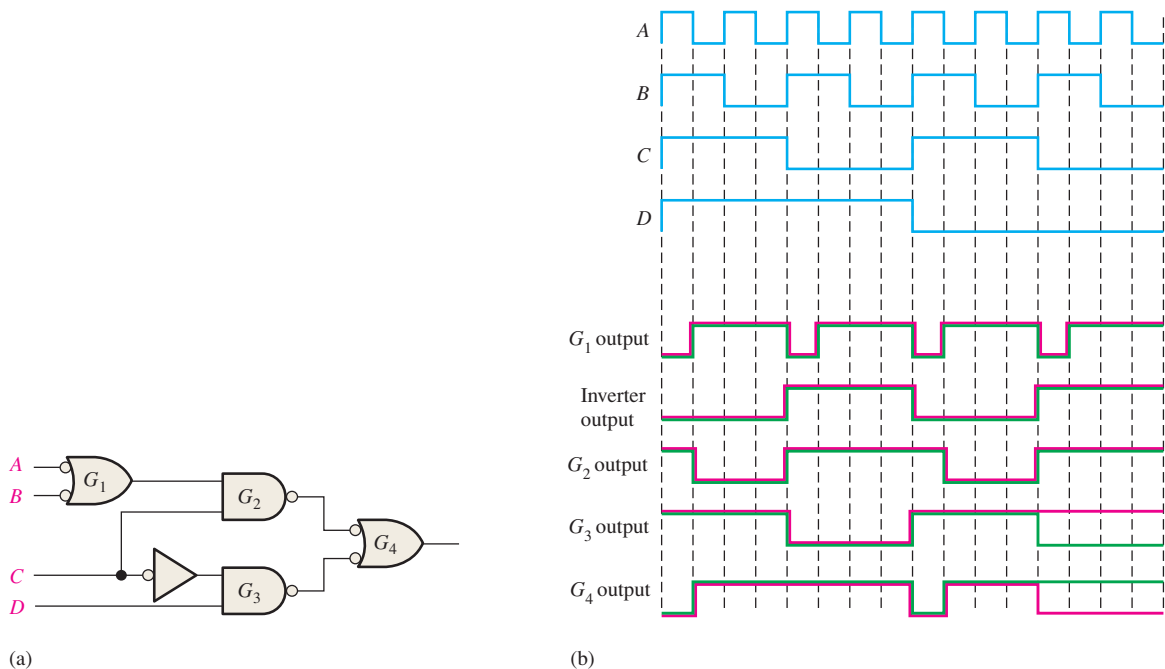

FIGURE 5-49
Determine the fault in the logic circuit of Figure 5-49(a) by using waveform analysis. You have observed the waveforms shown in green in Figure 5-49(b). The red waveforms are correct and are provided for comparison.
1. Determine what the correct waveform should be for each gate. The correct waveforms are shown in red, superimposed on the actual measured waveforms, in Figure 5-49(b).
For the inputs in Figure 5-49(b), determine the output waveform for the logic circuit (output of G_4) if the inverter has an open output.
3. Determine the output of gate G_4 in Figure 5-49(a), with inputs as shown in part (b), for the following faults: